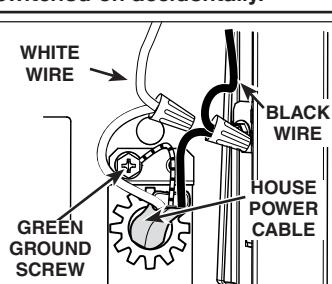

FIG. 29
1. Using appropriate wire nuts (not included), connect house power cable to unit wiring: BLACK to BLACK, WHITE to WHITE and GREEN or bare wire to GREEN ground screw (FIG. 29).